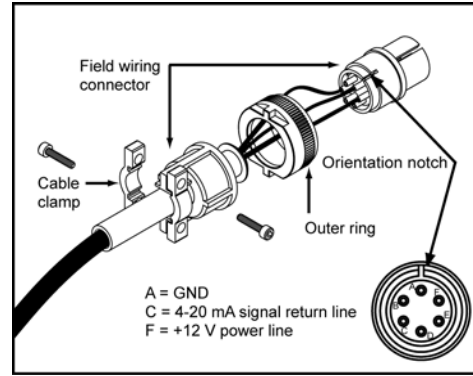

Figure 3. Field Transmitter Wiring with Customer Cable
1. If a cable is not needed for installation, use a pigtail connector and refer to Figure 3. Field Transmitter Wiring with Customer Cable.